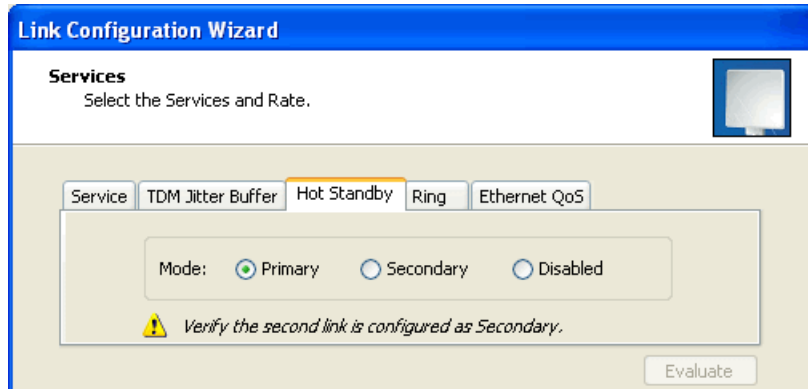

Figure 12-4: Services Configuration Panel: Hot Standby mode selection
2. Run the Configuration manager on the secondary link, and in the Hot Standby panel of Figure 12-4 above, check the Disabled button.
5. Again, run the Configuration Wizard on the secondary link, and in the panel of Figure 12-4 above, check the Secondary button to re-enable the link as secondary.
- Hot Standby mode – using the new Services panel in Figure 12-4 above
2. Run the RADWIN Manager and use Hot Standby tab of Figure 12-4 above to configure the new ODU to Primary or Secondary mode as required.
3. Ensure that it is set to the proper HSS mode in accordance with Figure 12-4 above. Enter the required Link ID and frequency.